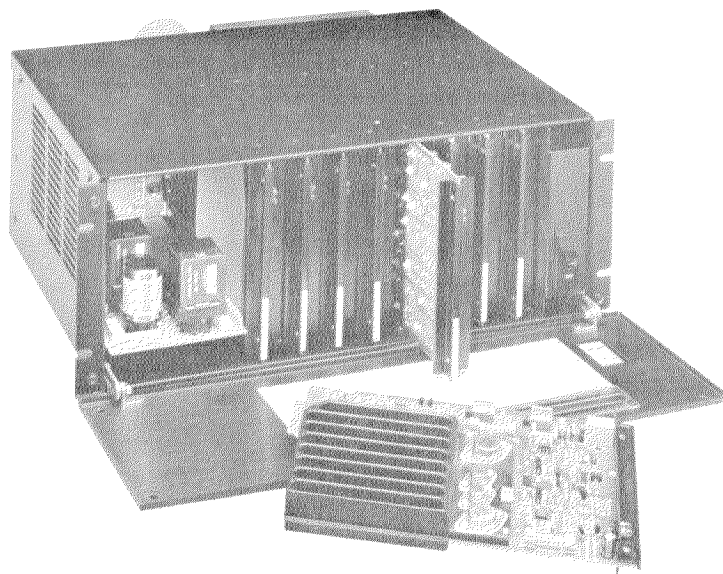

Figure 5 Main Frame and Position Assignment of Modules
1. Remove the four screws that secure the front panel. Open and lower the front panel as shown in Figure 5.